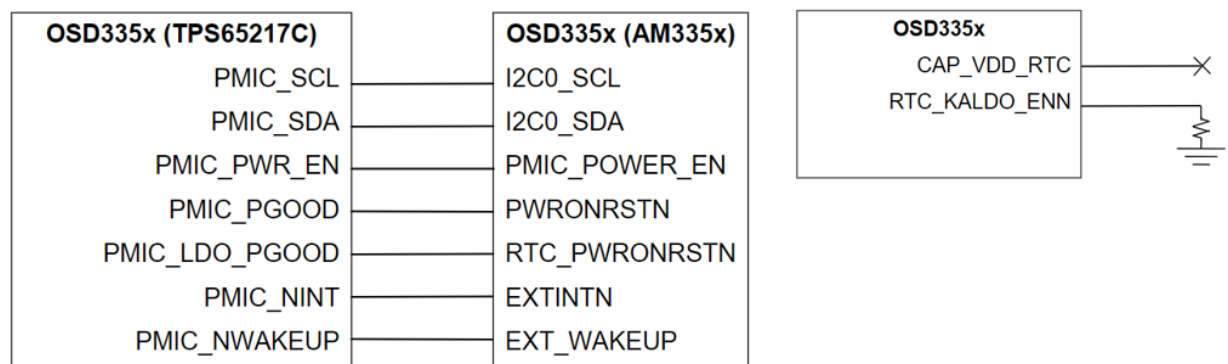
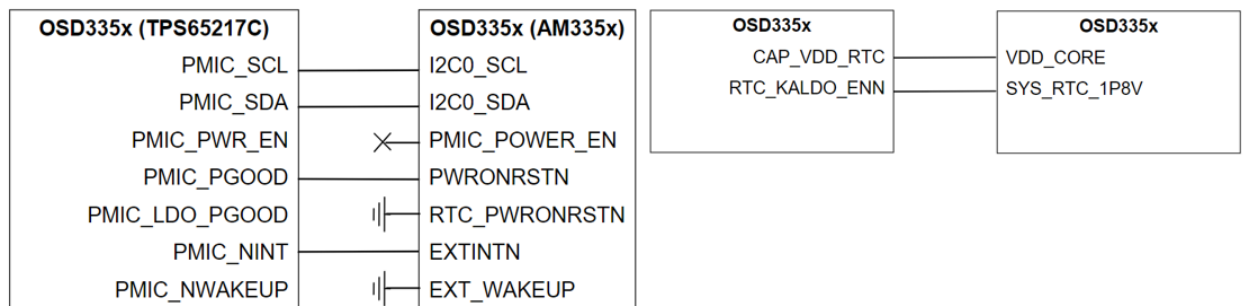

Figure 1. Minimum set of connections when RTC subsystem is enabled
Figure 2. Minimum set of connections when RTC Subsystem is disabled
- There is a minimum set of connections that are required for the OSD335x family of devices to function properly. These signals are the interface between the TPS65217C PMIC and AM335x processor and are used to properly configure and sequence the voltage rails. There are two use cases for hooking up these signals. First, the minimum connections required when the RTC subsystem within the AM335x needs to be enabled is shown in Figure 1. Second, the set of connections when the RTC subsystem within the AM335x is disabled is shown in Figure 2. Most designs use the connections shown in Figure 1 even when the RTC subsystem is not used by the system. This is done to future proof designs and will enable the internal AM335x 1.8V LDO instead of providing power directly from the PMIC.